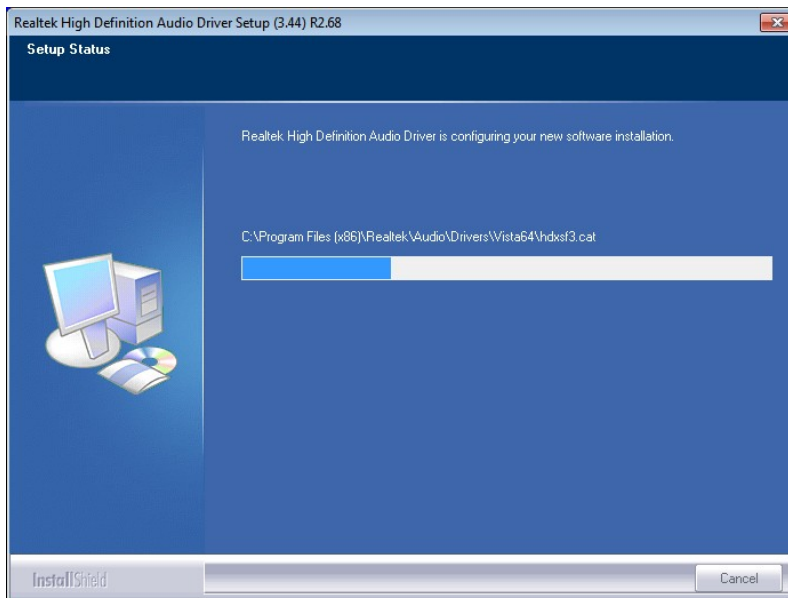

Figure 6-15: Audio Driver Installation
Step 7: The program begins to install. The installation progress can be monitored in the progress bar shown in **Figure 6-15**.